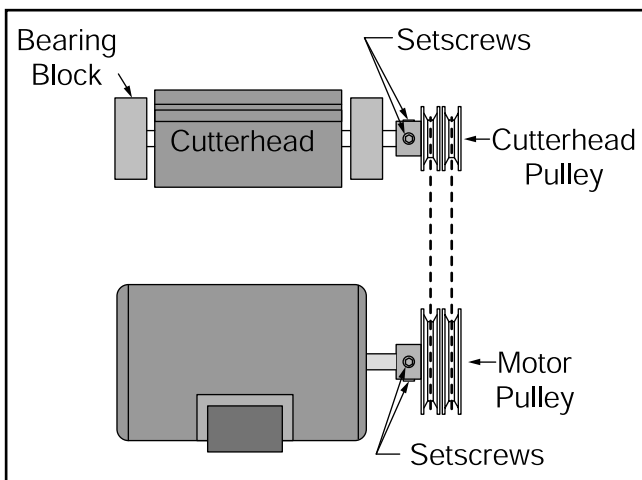

Figure 20. Pulley and V-belt alignment.
5. Move the motor on the mounting plate to align the motor and cutterhead pulleys with each other (See **Figure 20**). Visually confirm the pulley alignment from above (for the best accuracy use a straightedge for alignment confirmation).